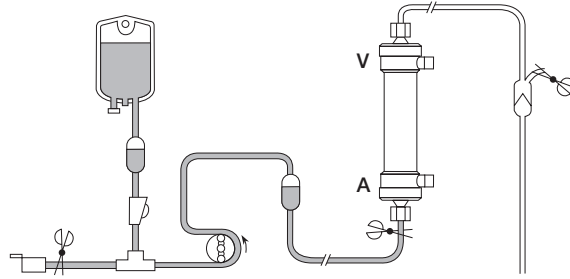

Fig. 1
- 3) Fill the arterial blood line with physiological saline, first the vascular access connector side and then the dialyzer connector side. Clamp both ends of the arterial line, and connect it to the arterial port of the dialyzer. Then connect the venous line to the venous port of the dialyzer. (Fig. 1)